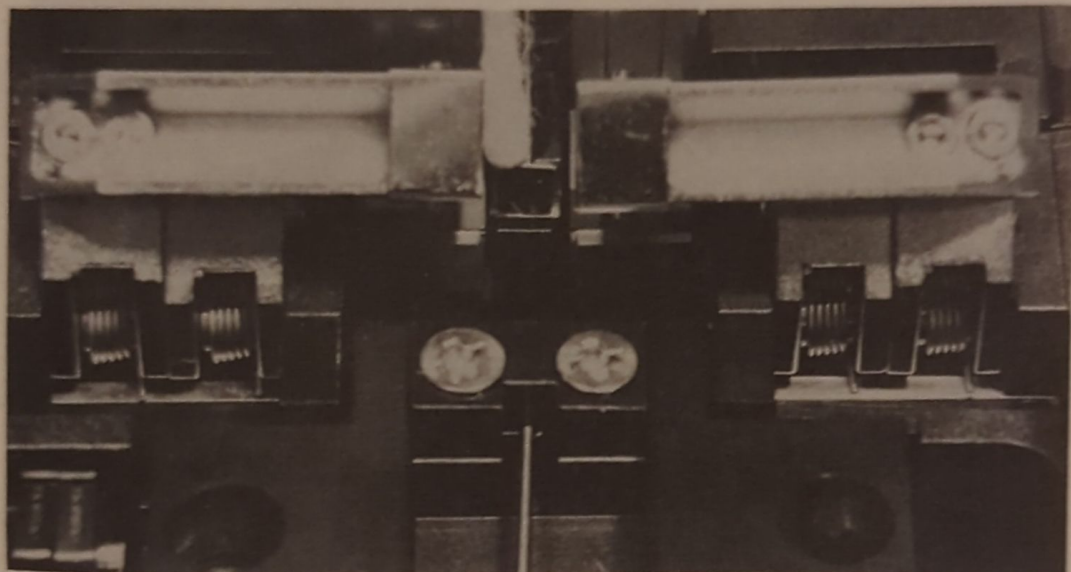

Fig. 33 Cleaning the Mirror
- (3) Wipe the mirror ⑨ and the one inside the wind protector with cotton stick dipped in alcohol as shown in Fig. 33.